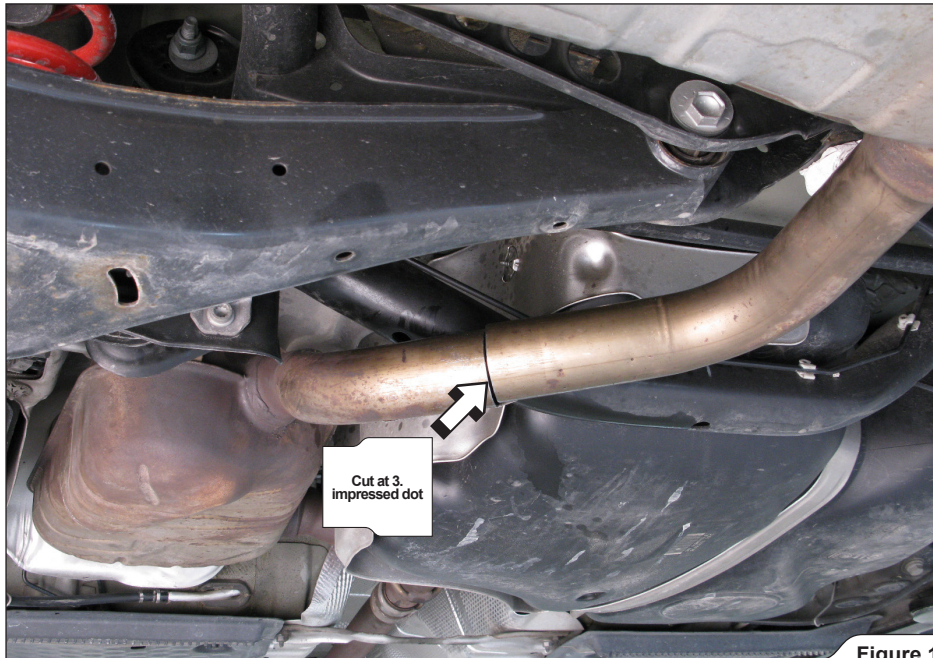

Figure 1
1. **For 1.4TSI model only:** mark the stock muffler's inlet pipe exactly at the **third** impressed dot. Carefully cut the pipe, using pipe cutting tool or equivalent (**Figure 1, 2**).